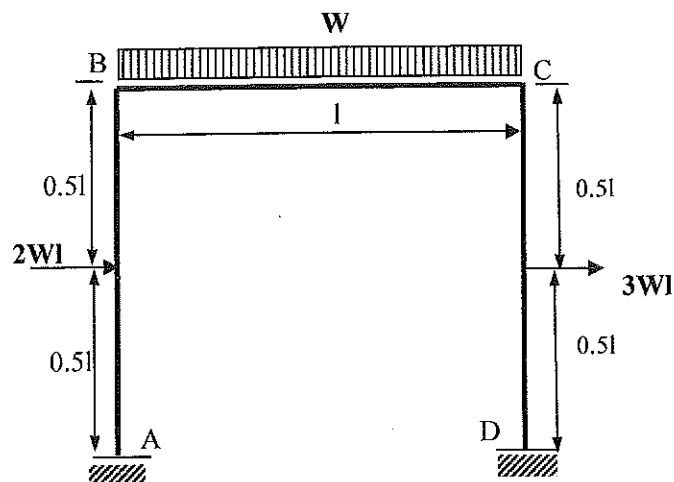

Figure Q4
- (i) A portal frame structure shown in Figure Q4. All members have same flexural rigidity (EI). You can neglect the axial deformation.